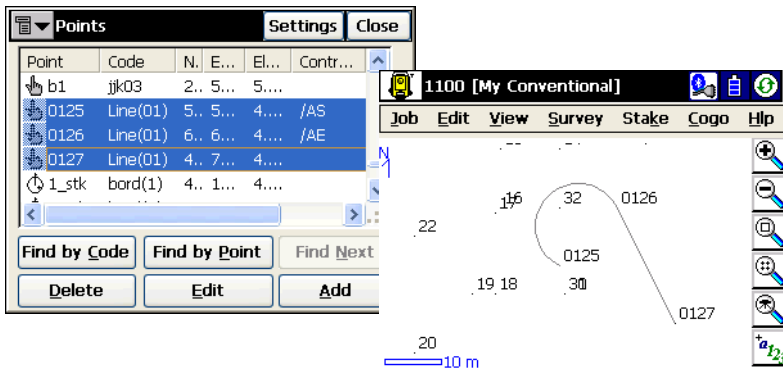

Figure 4-9. Code-String Linework with Arc Control Code
- These points can create the line segment with the arc start/or end point which will act as the tangent to the arc (Figure 4-9 on page 4-6).